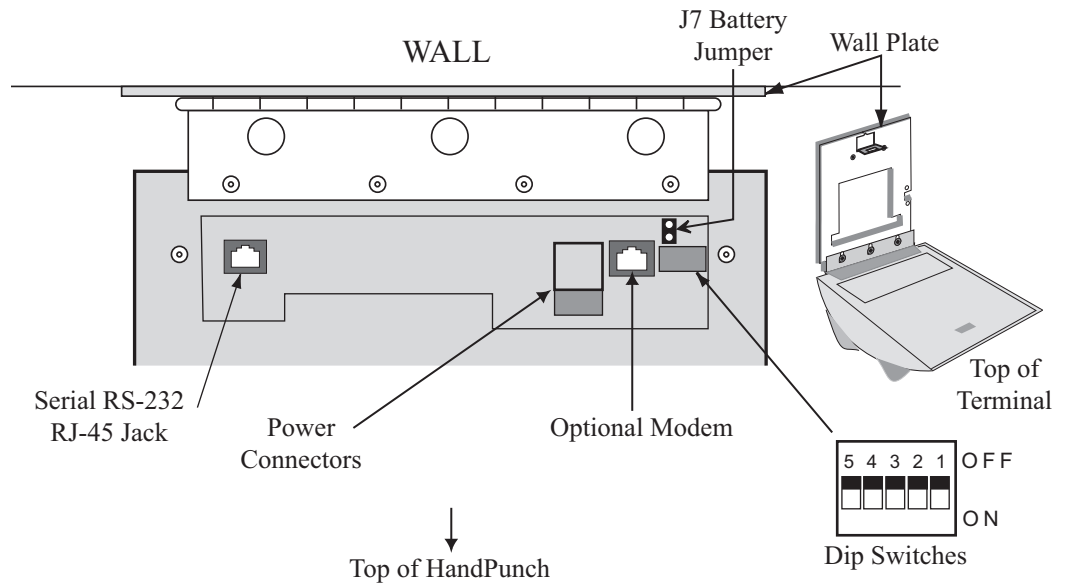

Figure 12-4: Wiring Connections and Dip Switches
Once the HandPunch is attached to the wall plate the wiring connections to the HandPunch can be made (see Figure 12-4).
*If the HandPunch is equipped with the battery backup option, remove shunt J7 in front of the DIP switch array (see Figure 12-4 on page 47) before proceeding. Replace shunt J7 after completion of the following steps.*